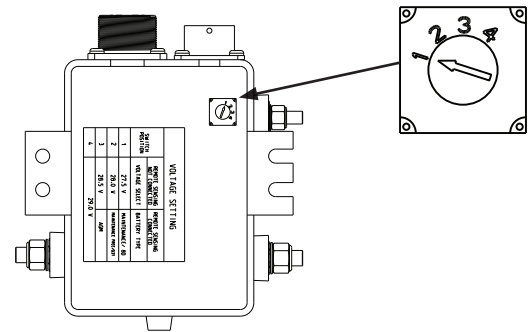

Figure 1: Regulator Voltage Selection Switch (Factory setting is position 1)
1. Before installing, turn regulator over and set to same setting as regulator being replaced or make sure setting is appropriate for type of battery used. See Figure 1 and Table 1 for voltage set point options.